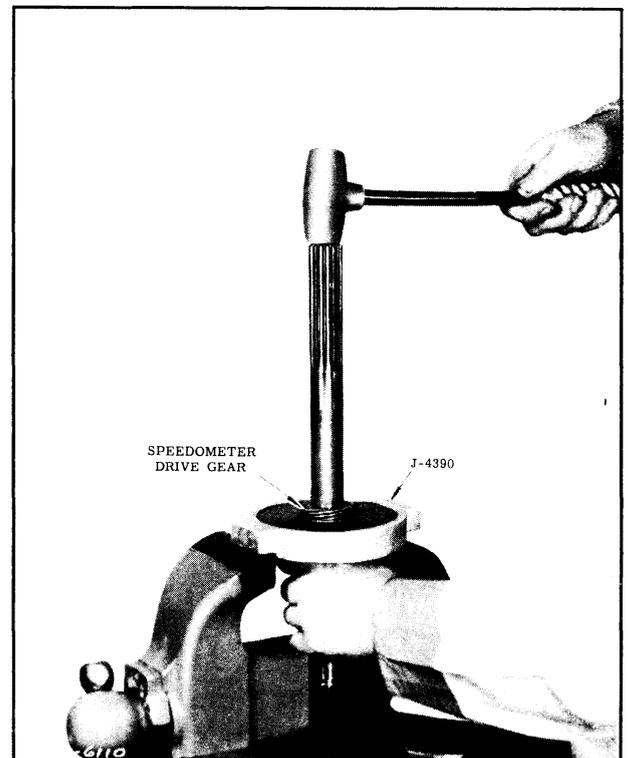

Fig. 11-25 Removing Speedometer Drive Gear Using Tool J-4390
2. Remove speedometer drive gear using Tool J-4390. (See Fig. 11-25) Then remove gear spacer.